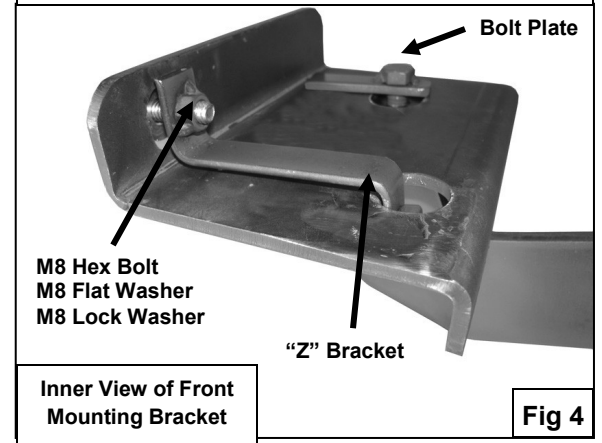

Fig 4
7. Attach the opposite end of "Z" Bracket to the tab on the Mounting Bracket using the included (1) M8 Hex Head Bolt (Figure 4 & 5). Hand tighten at this time.